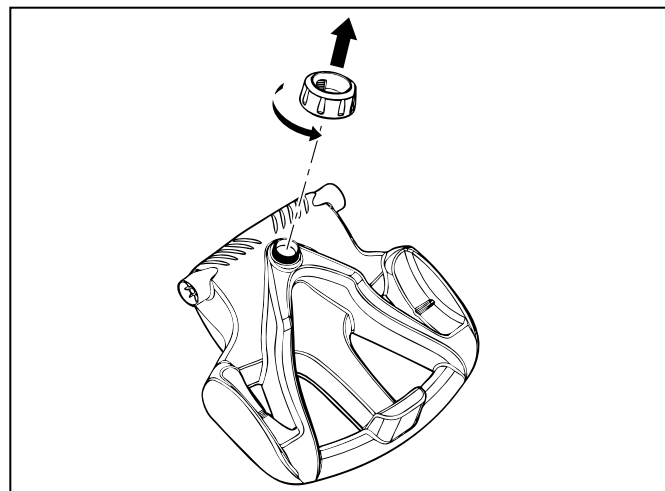

Figure 2. Remove Handnut from Base Unit
1. Unscrew the handnut from the base unit (Figure 2).